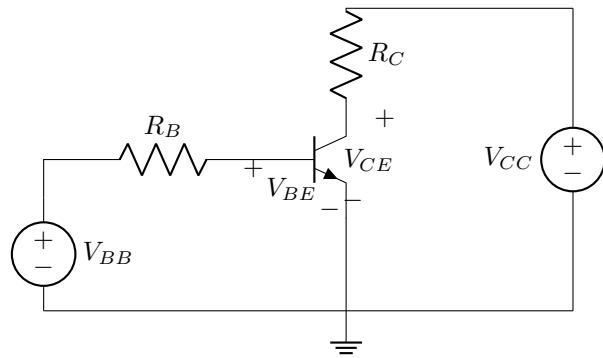

Figure 1: Circuit for measuring DC current gain (β) of an NPN BJT.
In this portion of the experiment, you will measure the DC current gain (β) of your NPN transistor and verify the fundamental relationship $i_C = \beta i_B$. Begin by identifying the emitter, base, and collector terminals of your transistor using the datasheet or package diagram. Construct the circuit shown in Figure 1 on your breadboard, taking care to orient the transistor correctly.
In this section, you will map the complete output characteristics of the BJT by measuring collector current as a function of collector-emitter voltage for several fixed values of base current. These characteristic curves are fundamental to understanding BJT behavior and are analogous to the drain characteristics of MOSFETs. Use the same circuit as Part 1 (Figure 1).
Using the circuit in Figure 1, keep V_{CC} fixed at 10 V to ensure the transistor remains in the active region throughout the measurements. You may wish to reduce R_B to 10 k Ω for this part to allow higher base currents and easier measurements, though 100 k Ω is also acceptable.
1. For the circuit in Figure 1, assume $V_{BB} = 3$ V, $V_{CC} = 10$ V, $R_B = 100$ k Ω , $R_C = 1$ k Ω , $\beta = 120$, and $V_{BE} = 0.7$ V when the transistor is conducting. Calculate: